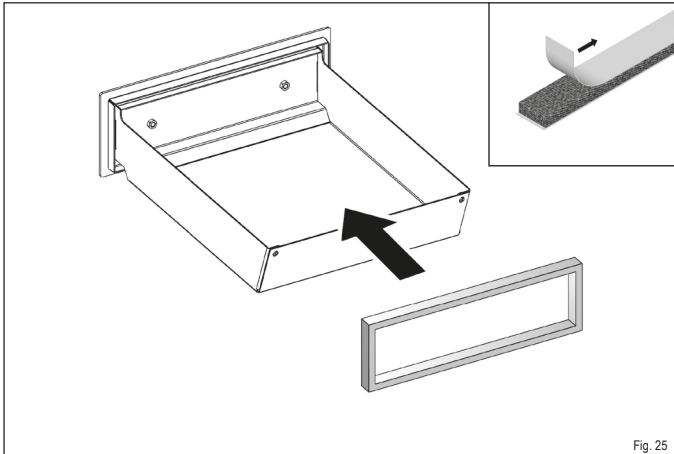

Fig. 25
- ▶ Push the new seal evenly into the rail of the ash drawer (Fig. 25).